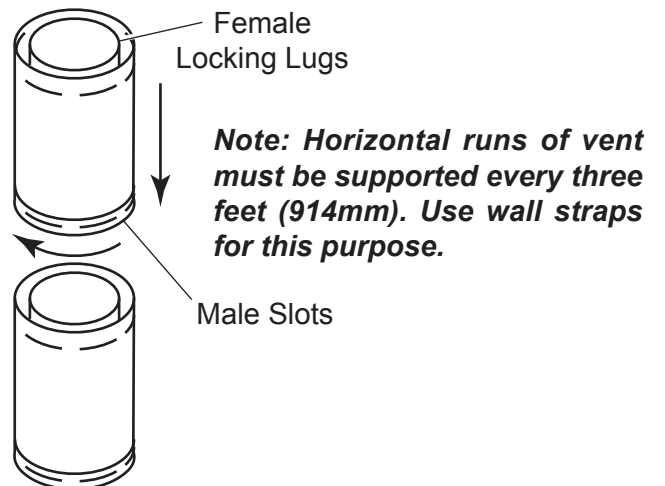

Figure 17 - Rigid Vent Pipe Connections
Twist-lock Procedure: The female ends of the pipes and fittings have three locking lugs (indentations). These lugs will slide straight into matching slots on the male end of adjacent pipes and fittings. Push the pipe sections together and twist one section clockwise approximately one-quarter turn until the sections are fully locked. See Figure 17.
1. Establish vent hole through the wall. *See Figure 17, page 19.*
2. Assemble the desired lengths of pipe and elbows necessary to reach from the burner system flue up through the firestop. Be sure pipe and elbow connections are fully twist-locked. See *Figure 17*, page 19.